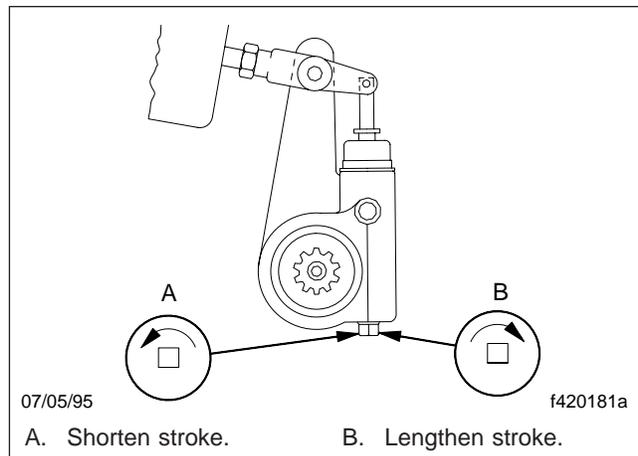

Fig. 7, Brake Stroke Adjusting
3.4 Turn the adjusting nut one-eighth turn, as shown in Fig. 7. Measure the stroke again, and adjust until correct.
- 4.4 Turn the adjusting nut one-eighth turn, as shown in **Fig. 7**. Measure the stroke again, and adjust until correct.